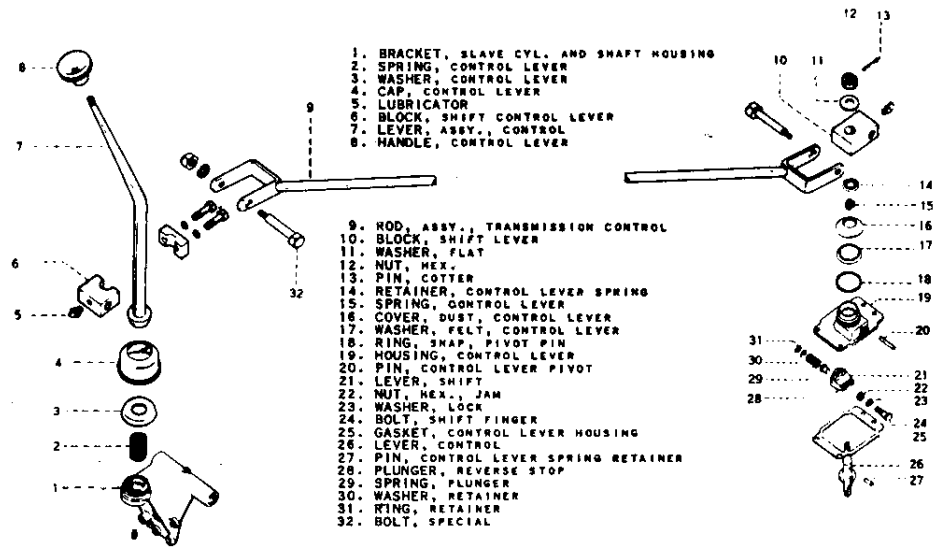

FIG 39 - CONTROL LEVER, SHIFR LEVER AND HOUSING
- a. Remove shift tower by removing (refer fig 39):-
- (1) Rod assembly (item 9).
- (2) Items 10 to 18.
- (3) Housing assembly (item 19).
- (4) Lever control (item 26).